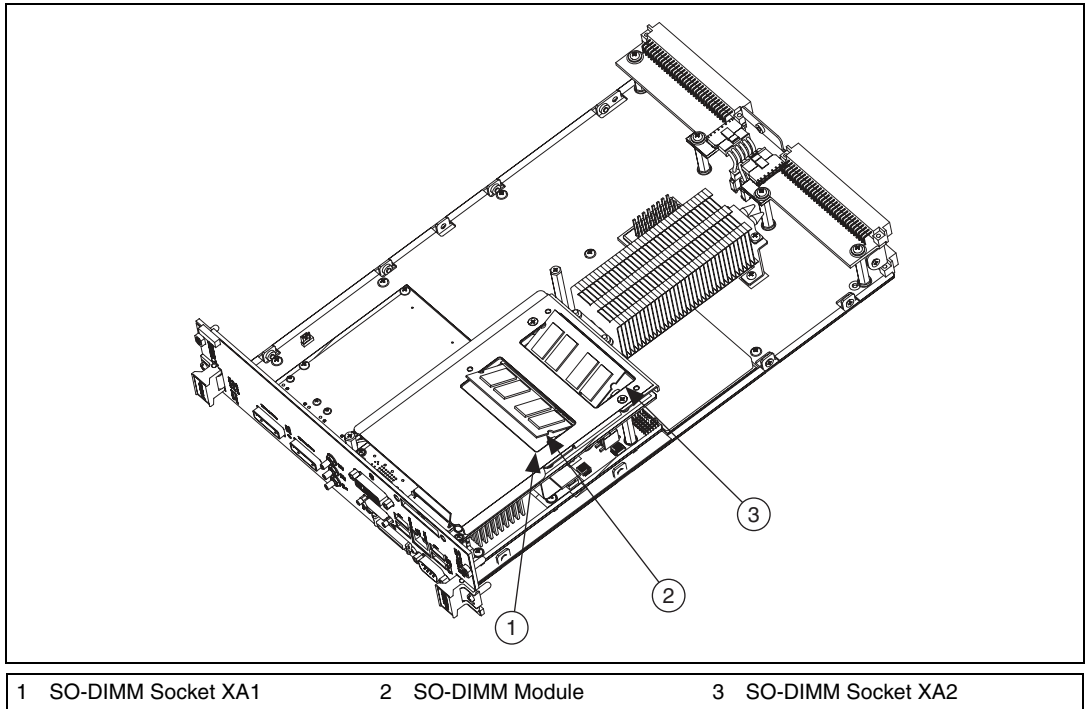

Figure 2. Installing a SO-DIMM in an NI VXIpc-882 Controller
3. Add the SO-DIMM modules to the empty SO-DIMM sockets. See Figure 2.